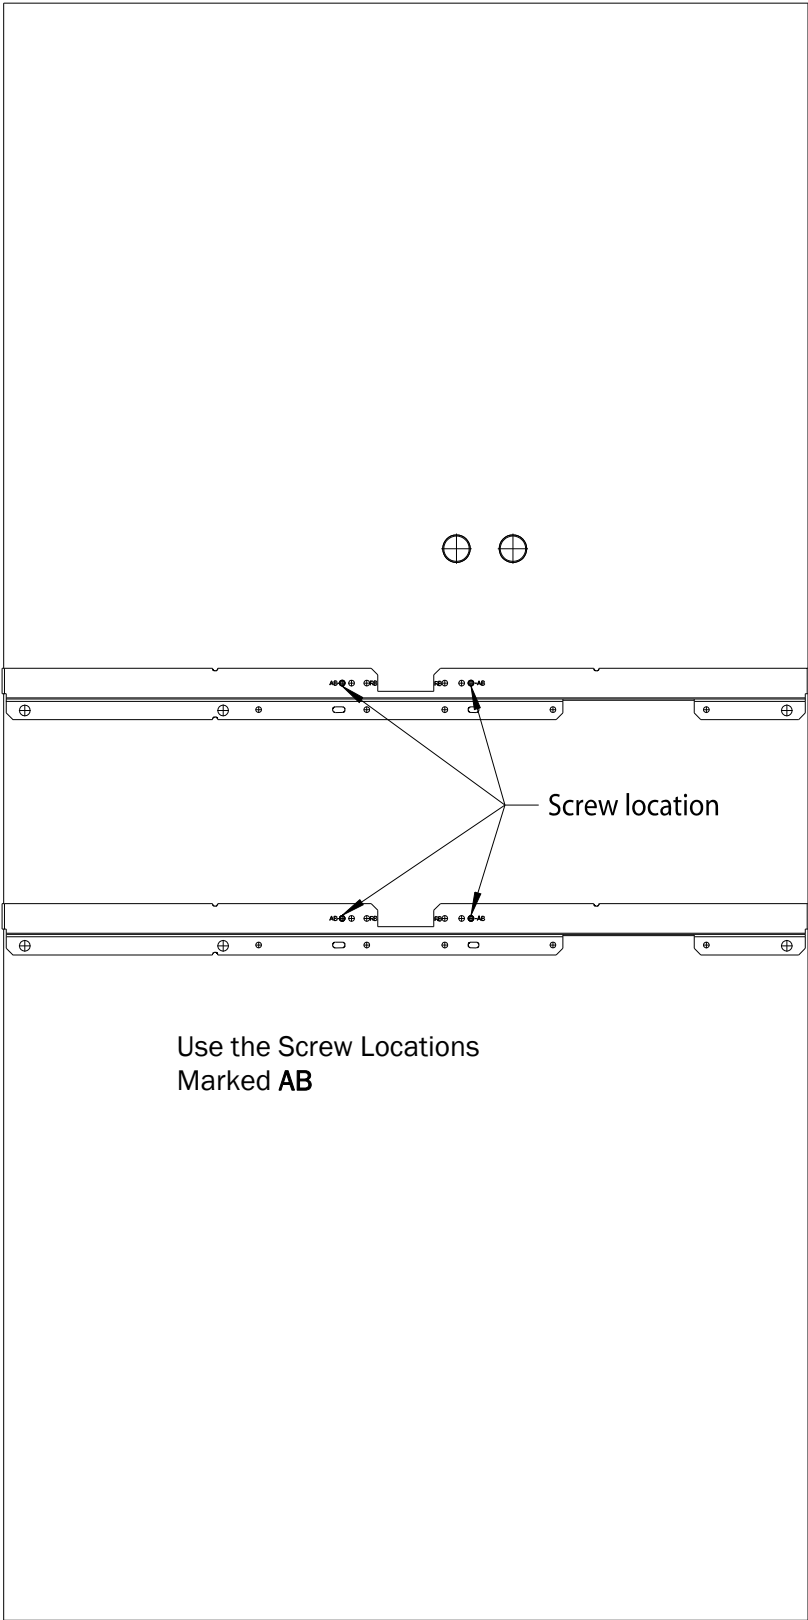

Figure 2-7: Core AP Below Ceiling Tile Mounting Rail Screw Locations
4. Mark the location of the **AB** screw holes in the mounting rails on the ceiling tile where the holes will be drilled through the tile as shown in Figure 2-7. Drill four .375-inch (10 mm) diameter holes in the ceiling tile.